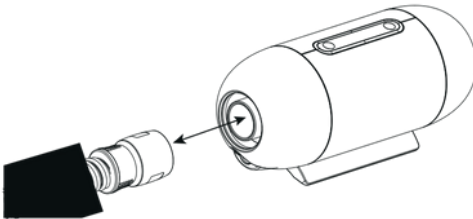

Fig 15-1
2. Hold the cuff of the tubing and gently pull it away from the device as shown in Fig. 15-1.